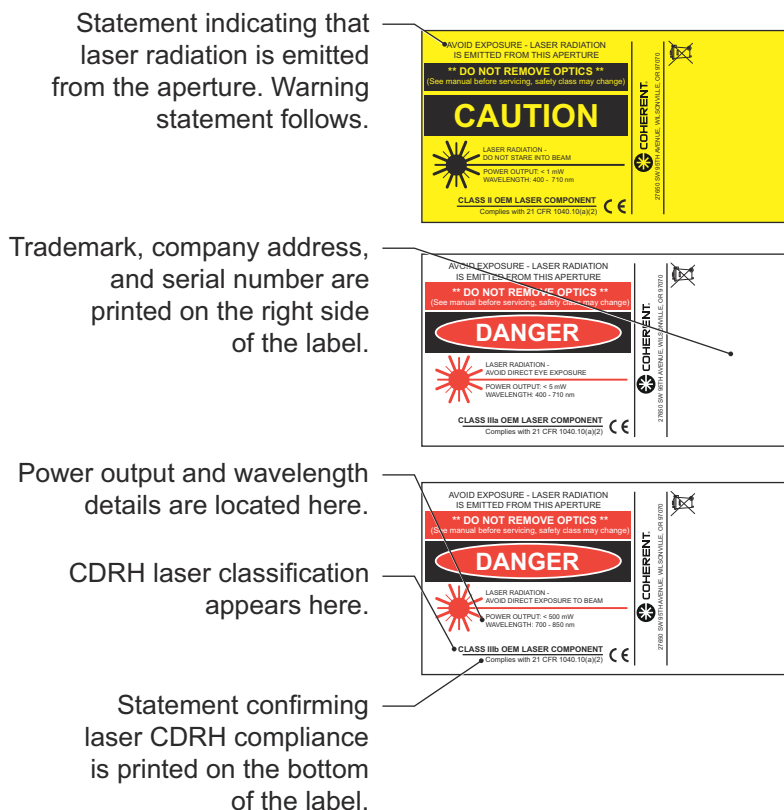

Figure 1-3. CDRH Warning/ID/Aperture Label Examples
3. Warning/ID/aperture label—see Figure 1-3 (p. 1-6) and Figure 1-4 (p. 1-7)